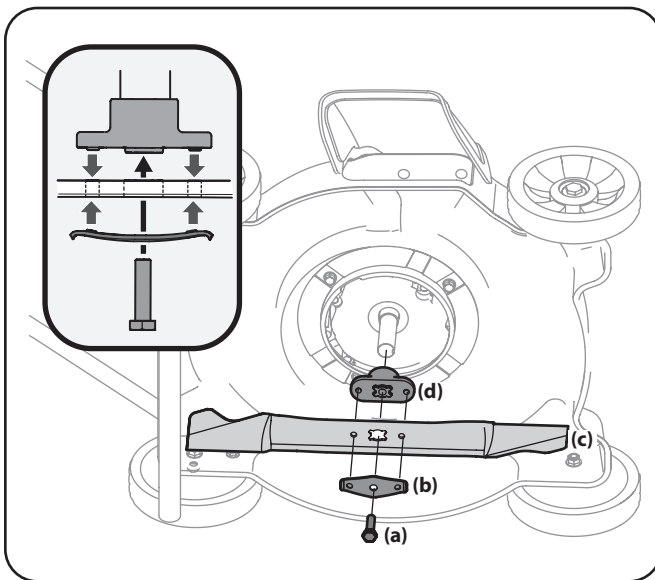

Figure 7-1
3. Remove the bolt (a) and the blade bell support (b) which hold the blade and the blade adapter to the engine crankshaft. See Figure 7-1.
4. Remove blade (c) and adapter (d) from the crankshaft. See Figure 7-1.